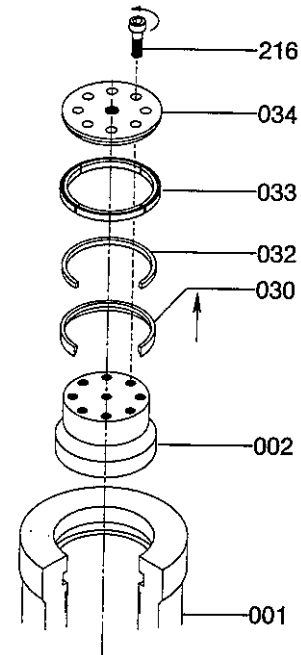

Fig. 9
5.2 — PRESSURE SEAL BONNET VALVES (Fig. 9)